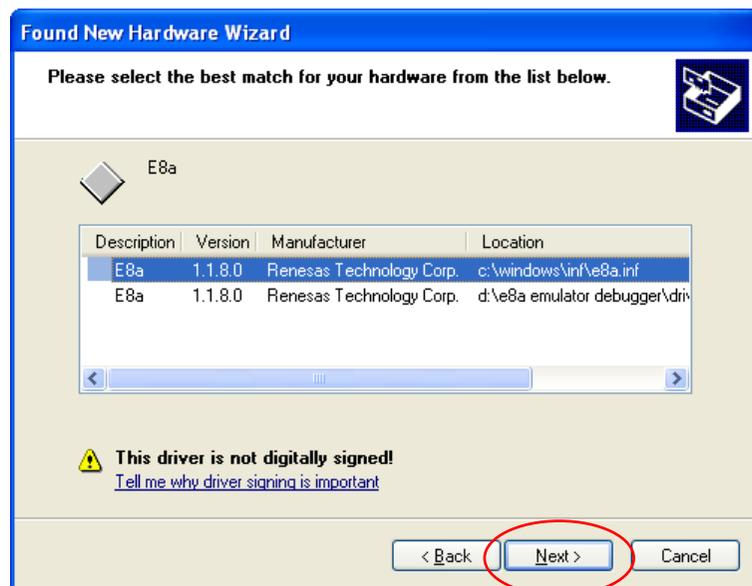

Figure 68:
16. When the search is complete, the following screen will appear. Select E8a then 'Next' Figure 68.